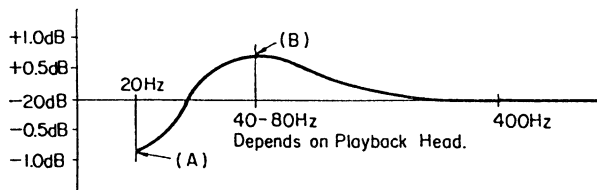

Fig. 6.3.7
In general, the frequency response at low shows the response in Fig. 6.3.7. When the level at 400 Hz is considered to be 0 dB, the level at 20 Hz shows the minimum value (A) and the peak of the waveform produced by contour effect shows the maximum value (B). The peak of the waveform appears around the range of 40 – 80 Hz depending upon the playback head.
Adjust so that the level difference between (A) and (B) in Fig. 6.3.7 becomes less than 1.5 dB.